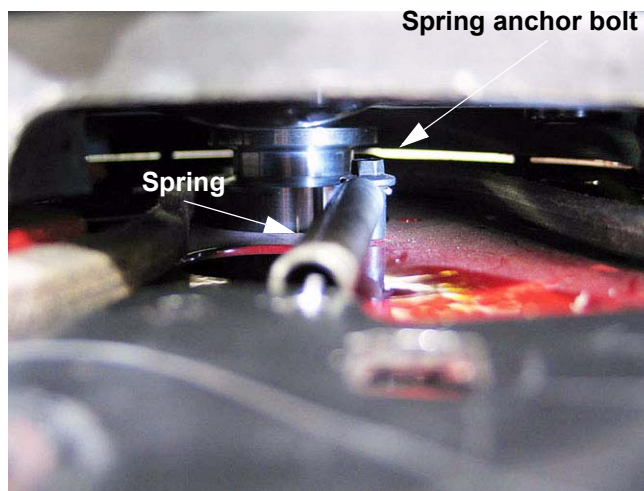

Figure 2.7
- 2.7. If the idler pulleys do not react properly, confirm that the spring is properly attached to tension bracket and spring anchor bolt. See Figure 2.7.